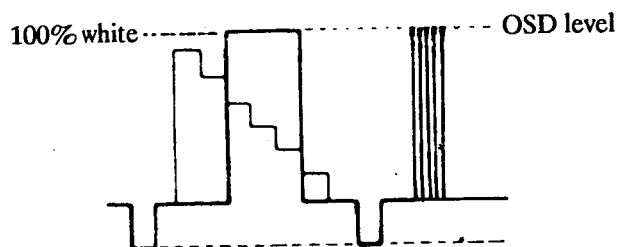

Fig.14
5. Adjust the OSD level control (VR308) for 100% white level. (See Fig.14)